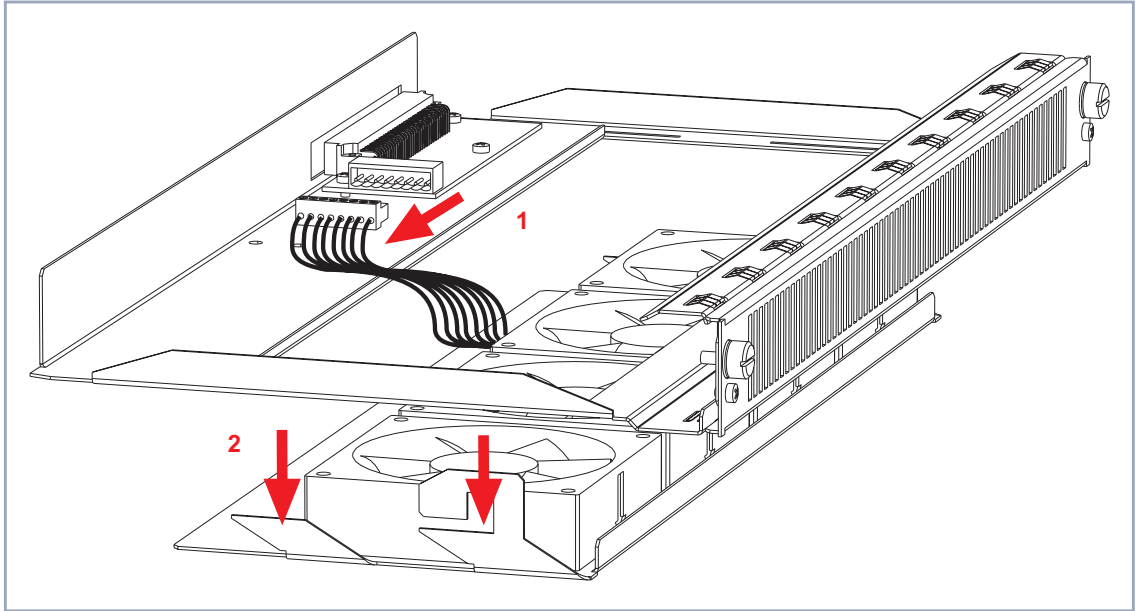

Figure 4-14: Disconnecting the fan insertion from the fan cassette
- Disconnect the fan insertion plug from the fan cassette as shown in figure 4-14, page 53, arrow no. 1.
- Draw out the fan insertion from the fan cassette as shown in figure 4-14, page 53, arrow no. 2.
- Disconnect the fan insertion switch from the fan cassette as shown in figure 4-14, page 53, arrow no. 1.